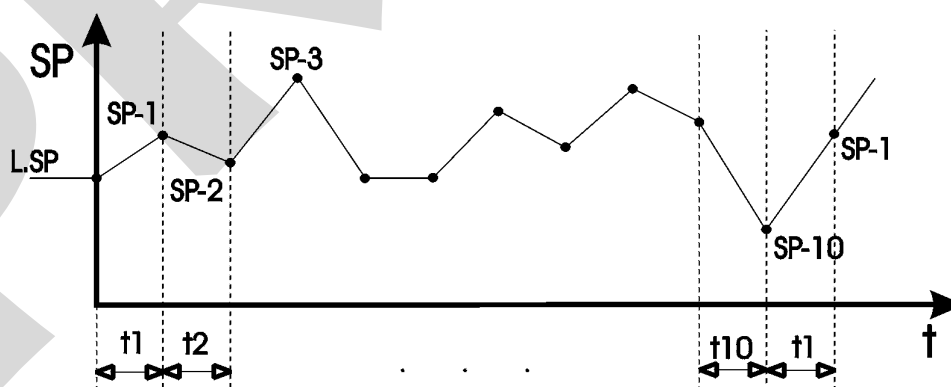

Fig. 30 - Evolution of the programmable setpoint
- Adjust the gain value (PROP), also called sensitivity, until reaching a limit value in which the controlled variable will show a uniform oscillation, i.e., with constant amplitudes (see figure 30). Values above that limit produce amplifying oscillations, whereas gain values below that limit will dampen those oscillations. By ultimate sensitivity (K_u) it is meant that limit gain and by ultimate period (P_u) it is meant the period of constant oscillation caused by this sensitivity.
Figure 30 shows an illustration of a wave form obtained from the setpoints programmed by the user. Note that the first setpoint (SP-1) is reached from the local setpoint and that after running the programmable setpoint the value to be used for the local setpoint will be the last value obtained by the programmable setpoint.